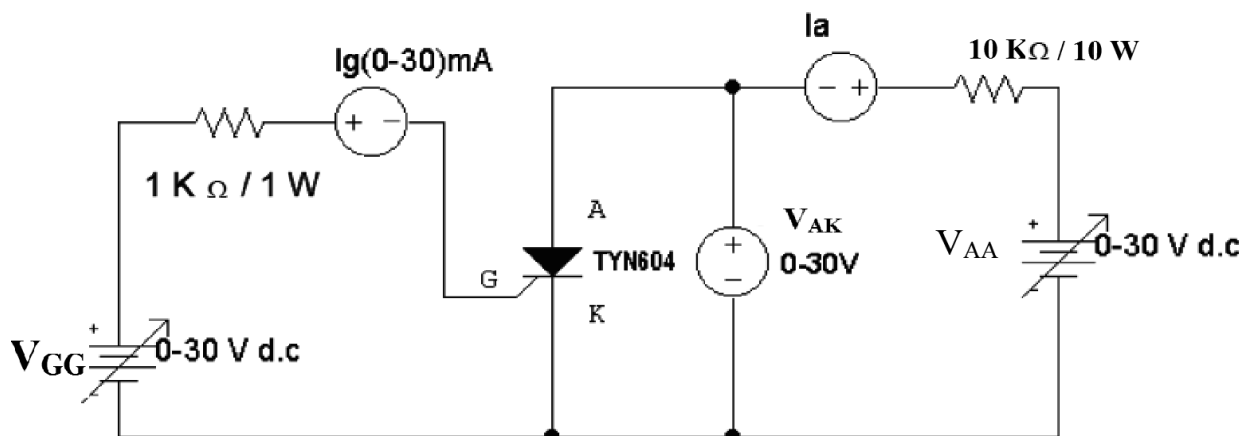

Fig. 1.2 Circuit diagram of V-I characteristics of SCR
1. Make the connection as per circuit diagram given in Fig. 1.2.